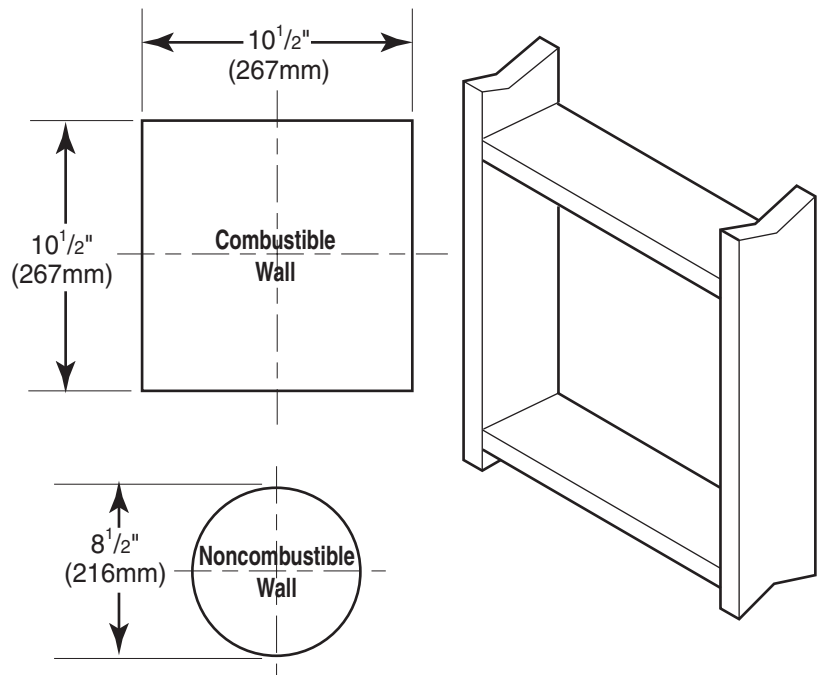

Figure 17 - Exterior Wall Framing Dimensions
Combustible Exterior Walls: Cut a 10¹/₂"H x 10¹/₂"W square hole through the exterior wall frame. See *Figure 17*.
4. The center of the hole should line up with the center line of the horizontal rigid vent pipe end. Allow 1/4" minimum rise per foot. See *Figure 17*.
Combustible Exterior Walls: Cut a $10\frac{1}{2}$ "H x $10\frac{1}{2}$ "W square hole through the exterior wall frame. See Figure 17.
1. Establish vent hole through the wall. *See Figure 17, page 18.*